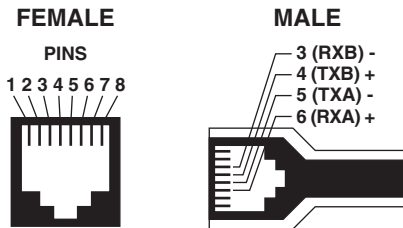

Figure 3-1. Pin Assignments for RJ-45 Connectors.
1. Connect the twisted-pair cable (customer-supplied) to the RJ-45 female. Refer to Figure 3-1 for the associated pin assignments.